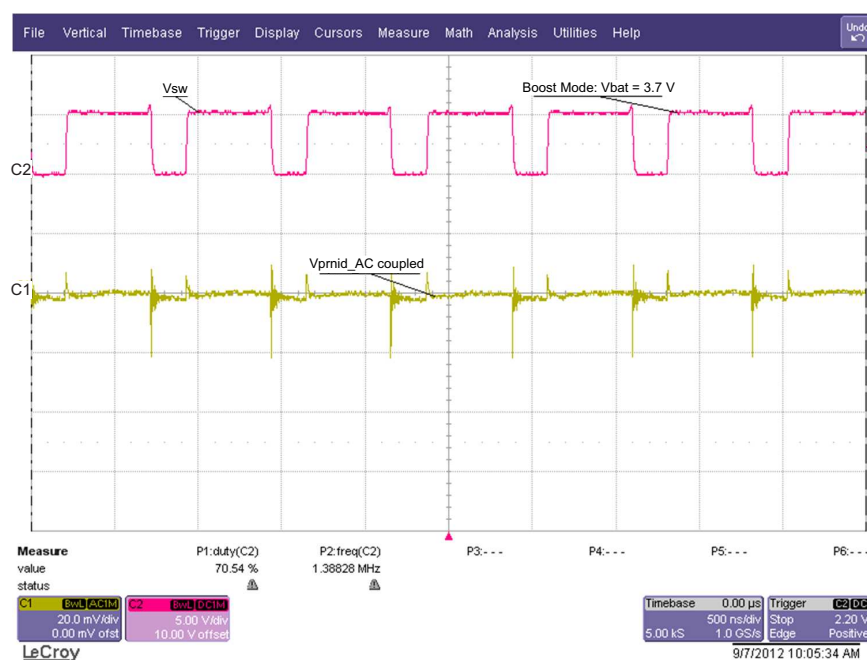

Figure 5. Boost Mode Ripple and Duty Cycle; $V_{BAT} = 3.7$ V
7. Verify scope measurement (Figure 5)